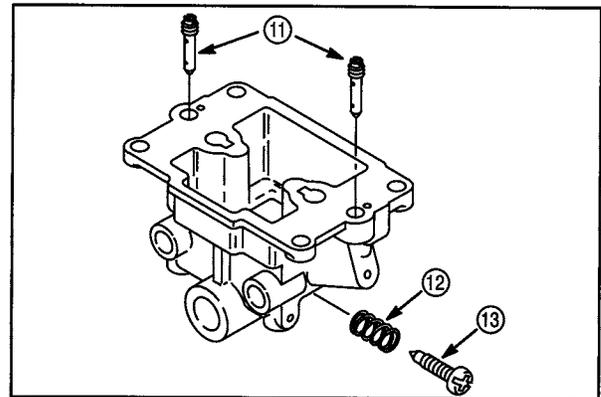

Fig. 63
- Remove pilot jets (11), Fig. 63.
- Remove float bowl drain screw (13) and spring (12).